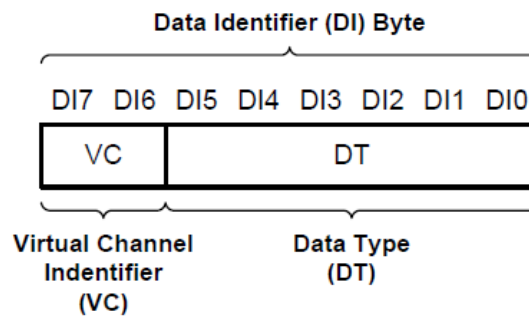

Figure 3.12 Data Identifier Byte
The Data Identifier byte contains the Virtual Channel Identifier (VC) value and the Data Type (DT) value as illustrated in the Figure 3.12.